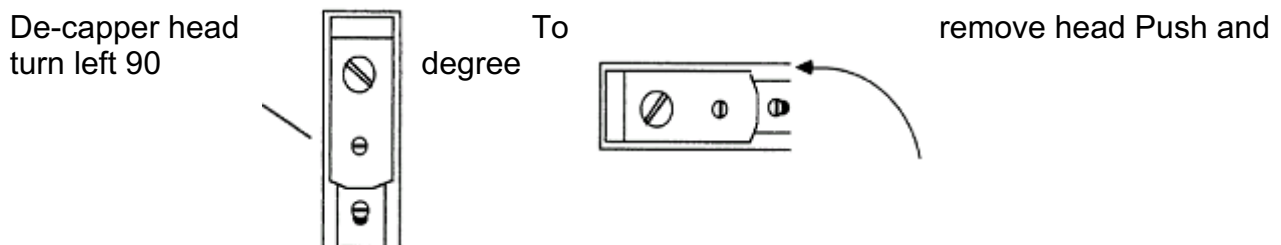

Figure 5: Removal of de-capper head
- Push de-capper head and turn left (90 degree counter clockwise). Se figure 5.